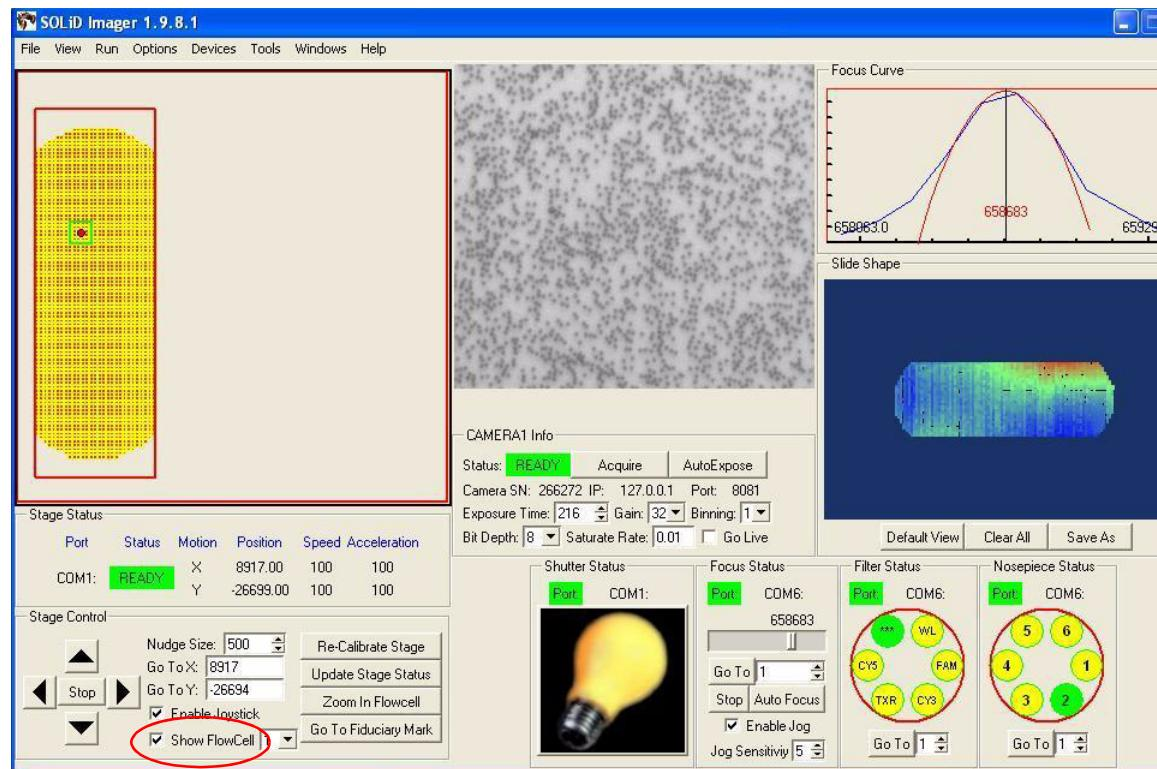

Figure 76 Click **Show Flowcell to find the beads on the slide.**
2. Select the **Show Flowcell** box in the bottom left hand corner of the Imager window, then choose the number of the flowcell to set (Flowcell 1 or Flowcell 2; see Figure 76).